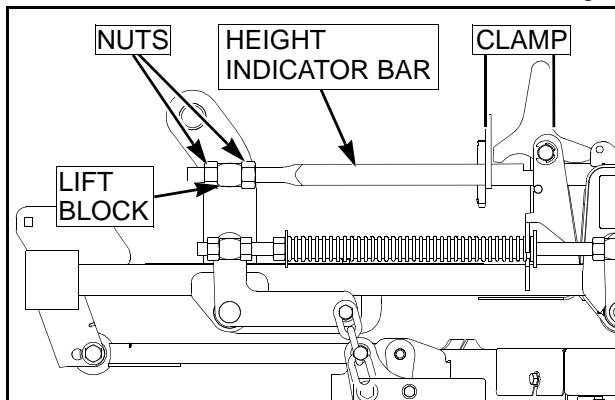
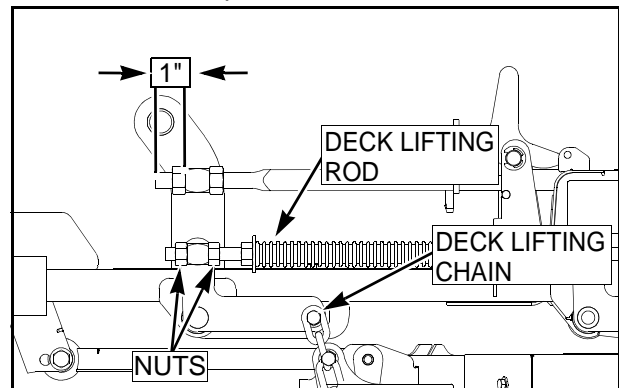

FIG. 3
FIG. 4
5. Loosen all nuts on the deck lift threaded rods (FIG. 4), and the hardware holding on the height indicator bar (on the right front) (FIG. 3), until ALL the deck lift chains are loose, AND the deck
6. Loosen the two nuts on the front of height indicator so that the foot pedal is free, FIG. 3.
7. Set the amount of threads protruding on the deck lift rod from the lift block at approximately 1" (FIG. 4).
11. While keeping the chain tight, tighten the nuts against the deck lift block on the height indicator (FIG. 3).